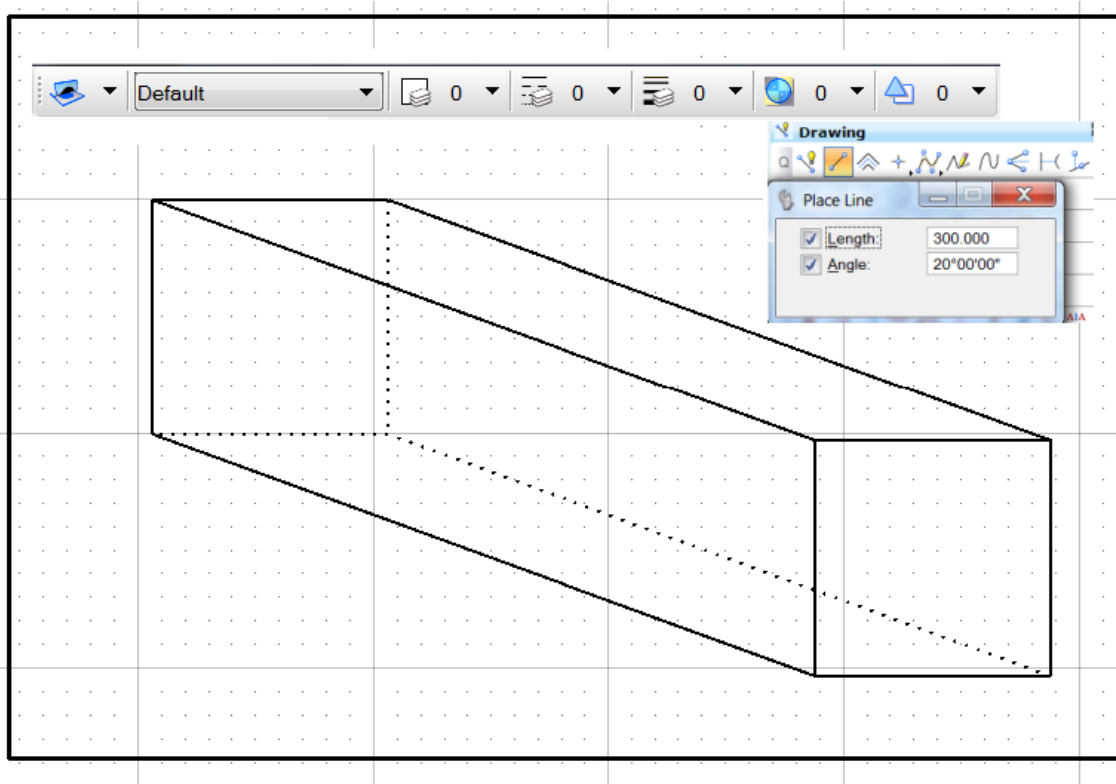

Figure 1-Lab 3
2. Draw figure 1-Lab 3. Use the PLACE LINE command and the PRIMARY TOOLS menu for different line style and weight. Make the sides 100 feet tall and wide and the angle 110 (160) degrees to the other end. Make it 300 feet long.